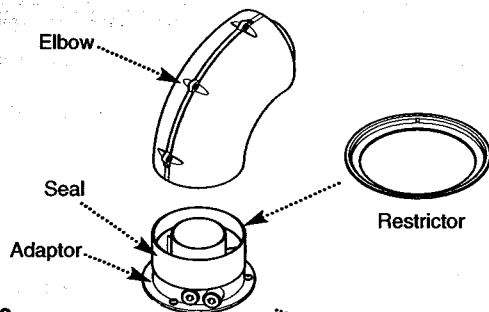

Fig. 22
**IMPORTANT:** If the equivalent flue length is greater than 1.5m the restrictor **MUST** be removed from the adaptor (Fig. 22).
9. Take one of the rubber seals and position it on the boiler flue adaptor. Engage the flue elbow on the adaptor and pull the sleeve up so that it equally covers the joint (Fig. 22).